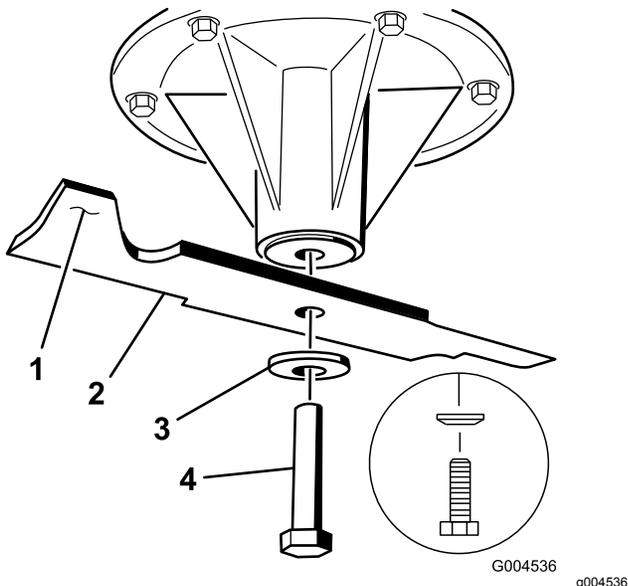

Figure 104
- Install the blade onto the spindle shaft (Figure 104).
- Install the spring disk and blade bolt (Figure 104).